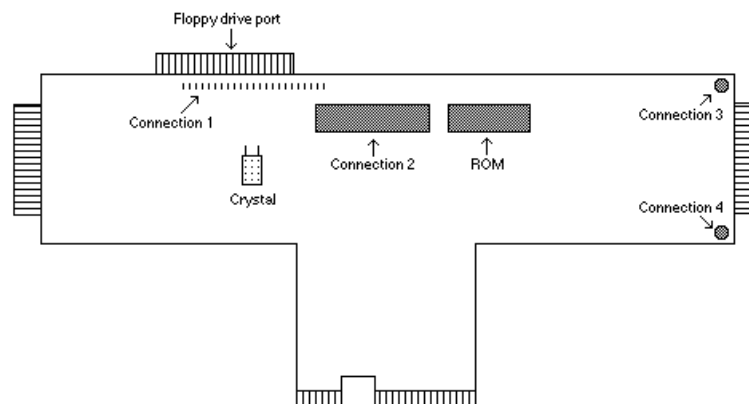
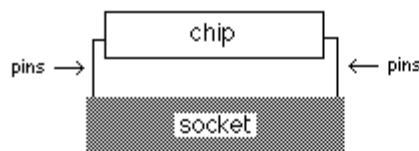

Figure 1
Figure 3
The drive mechanism(s) are connected to the *Floppy board* through a 34 pin ribbon cable. On one end of the cable, you must have a 34 pin card edge connector. This will plug into the Black Box’s floppy connector, located at the top of the Black Box (see Figure 1). As the Black Box sits in front of you (with the buttons to the left), pin 1 of the connector is on the **left**.
Due to changes in manufacturing practices during the many production runs of the Black Box, a few Black Boxes will require slight factory modifications in order to run with the *Floppy Board*. There are three things you will need to check on your Black Box. Refer to Figure 1 on page 3.
- 3) Turn your Black Box rightside-up. Using your IC puller or small flat bladed screwdriver, carefully remove the 40 pin chip nearest the top of the Black Box (see figure 1, page 3). Using the screwdriver, this is accomplished by inserting the screwdriver between the chip and the socket and gently lifting up. Do this to one side, then the other side and repeat until the chip has been removed from the socket (see Figure 3).